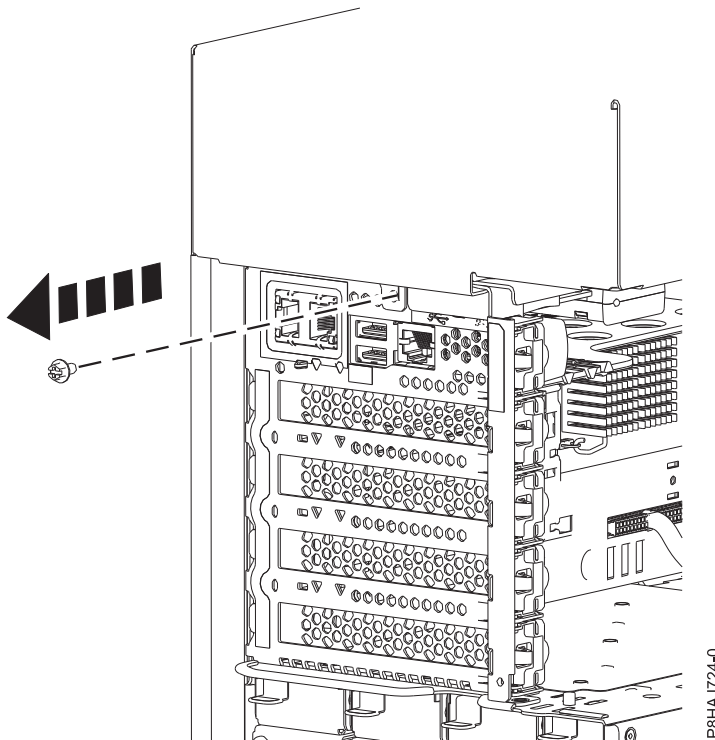

Figure 10. Removing the screw from the 8286-41A side cover
4. Remove the rear screw from the side cover by using a Phillips screwdriver as shown in Figure 10.